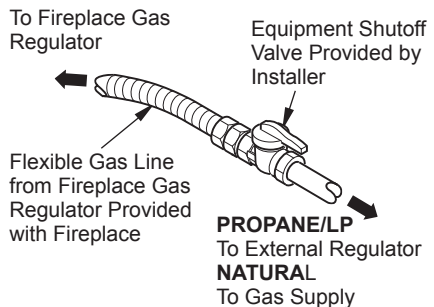

Figure 24 - Attaching Flexible Gas Line to Equipment Shutoff Valve
4. Apply pipe joint sealant lightly to male threads of gas connector attached to flexible gas line/equipment shutoff valve (see Figure 24).